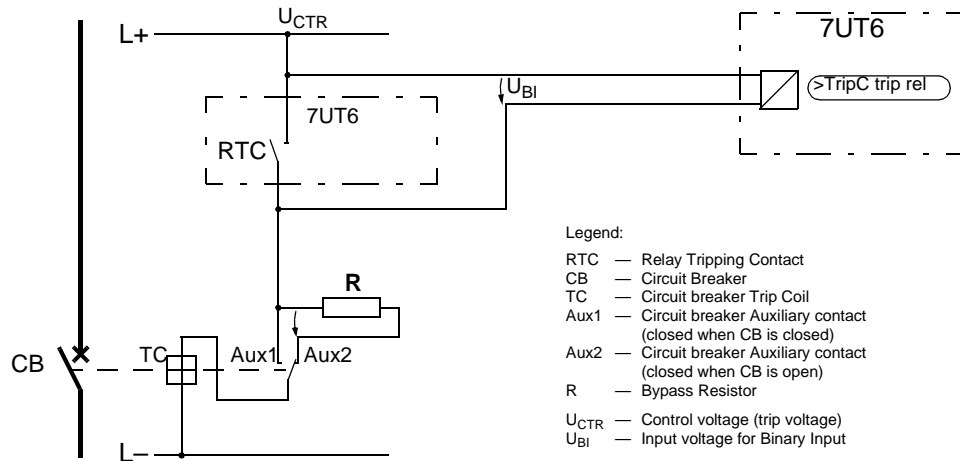

Figure 3-7 Trip circuit supervision with one binary input
If *one* binary input is used, a bypass resistor R must be employed (refer to Figure 3-7). This resistor R is connected in series with the second circuit breaker auxiliary contact (Aux2). The value of this resistor must be such that in the circuit breaker open condition (therefore Aux1 is open and Aux2 is closed) the circuit breaker trip coil (TC) is no longer picked up and binary input (BI1) is still picked up if the command relay contact is open.